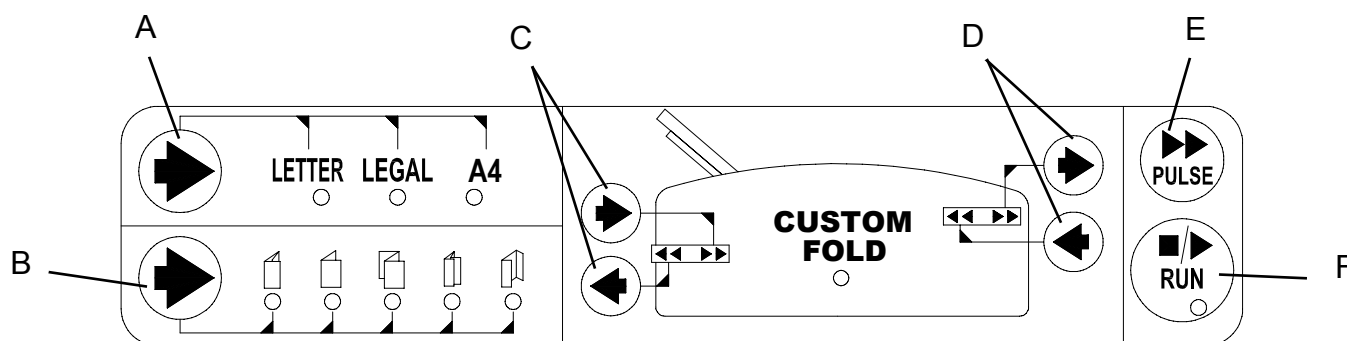

Fig. 10
Before attempting set-up of the Model 1701 folder, take a few moments to review the buttons on the Model 1701 touch pad display and their functions. The Model 1701 touch pad buttons are indicated below along with their function (**Fig. 10**).
- (1) Turn on the power with the power switch. If modifying a pre-set fold, first select that style as described in section **3.2**. To modify or choose a custom fold, press the 1st and 2nd paper stop arrow keys (**C & D, Fig. 10**) to move the stops in the desired direction. **Note: Immediately upon pressing one of the Custom Fold keys, the pre-set paper size and fold style icon LED's will go off and the Custom Fold LED's will come on, indicating the machine is in the Custom Fold mode.**
Set up the folder as described in sections **2 & 3** of these instructions. Square the stack of paper to be folded by using a Martin Yale Model 400 Jogger or by tapping 2 sides of the paper stack against a table or other hard object. Now, while holding the **red** paper pusher up, place the stack of paper between the paper pusher and the feed wheel (**Fig. 13**). The paper stack should now be straight and resting squarely on the roller cover. Release the paper pusher and let it come down and rest on the paper edge. Press the **Run Key** to initiate folding (**Fig. 10**). The folder will now start running and process the stack of paper. The folder will automatically turn off when the paper runs out. After the folder has